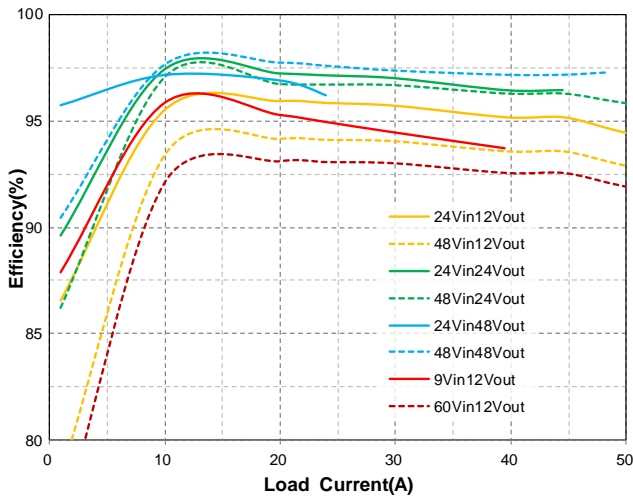

Figure 1: Efficiency vs. Load Current at Ta=25°C
- Vset pin (9) is the default output voltage setting Pin. It can be disabled and set output voltage by PMBus. Refer to PMBus commands specifically.
- H60SB0A050NRDE efficiency is 1.3% less than the H60SB0A050 other series when Vo close to Vin. They are equally efficiency when Vo not close to Vin. H60SB0A050 other series efficiency refer to the Figure 1 of P4.